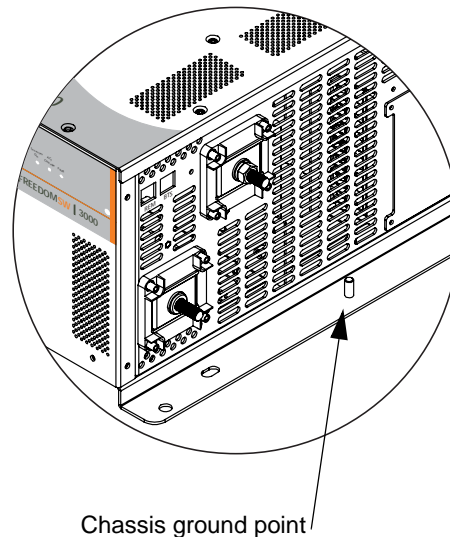

Figure 7 DC Wiring and DC Grounding
1. Using the appropriate wrench, loosen the bolt on the chassis ground point shown in Figure 7.